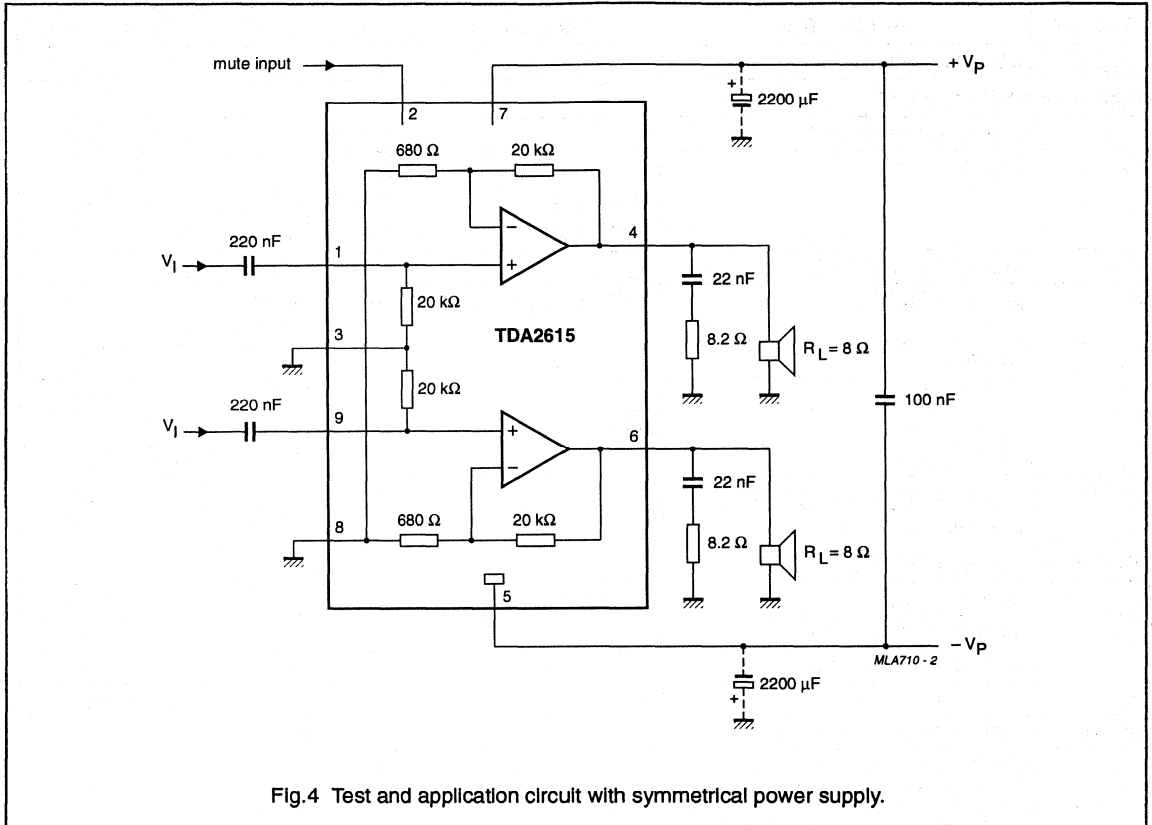

Fig.4 Test and application circuit with symmetrical power supply.
- $V_P = \pm 12$ V; $R_L = 8 \Omega$; $T_{amb} = 25$ °C; $f = 1$ kHz; symmetrical power supply $I_{MUTE} = < 30 \mu$ A. See Fig.4
- $\pm V_P = 4$ V; $R_L = 8 \Omega$; $T_{amb} = 25$ °C; $f = 1$ kHz; symmetrical power supply. See Fig.4